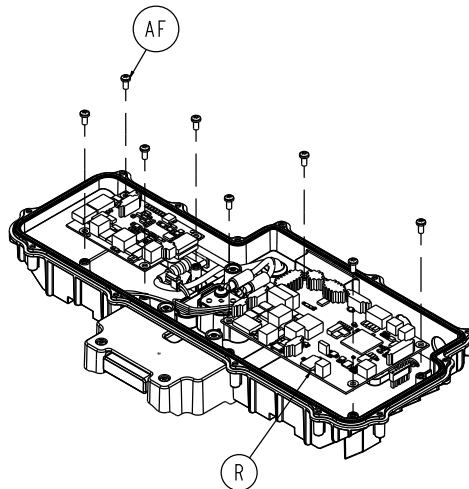

Figure 65 – Remove the FEIB board screws
12. Using a T20 Torx driver, remove the four pan head tapping screws (AF) that secure the cot FEIB board (R) to the bottom FEIB enclosure (Figure 65). Save the screws.